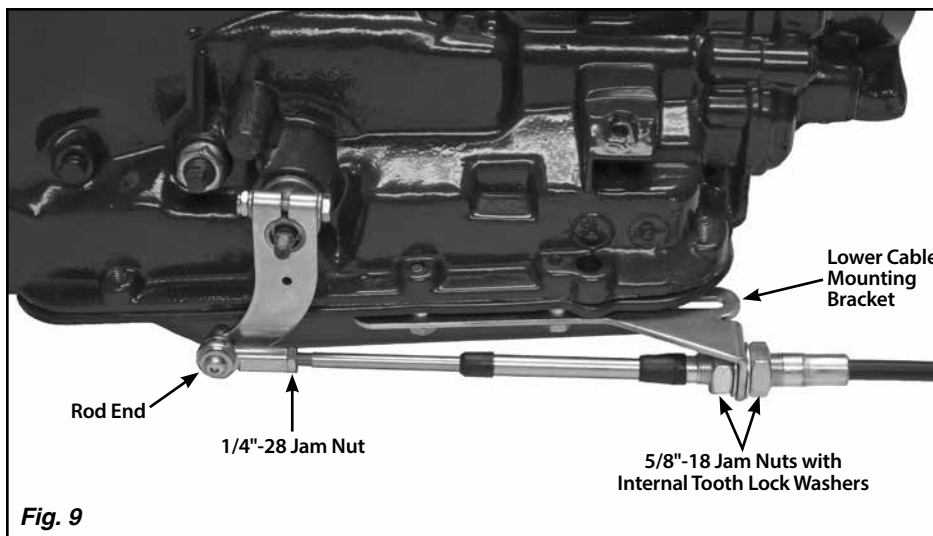

Fig. 9
Step 15: Attach the rod end at the transmission to the trans arm using a 1/4"-28 x 1" button head bolt, flat washer, rod end spacer, and nylock nut. The rod end will be positioned on the outside of the trans arm, away from the transmission. The rod end spacer goes in between the rod end and the trans arm. The button head bolt can be installed from either direction, but make sure the rod end is sandwiched between the flat washer and the rod end spacer. **Fig. 9 & 10**